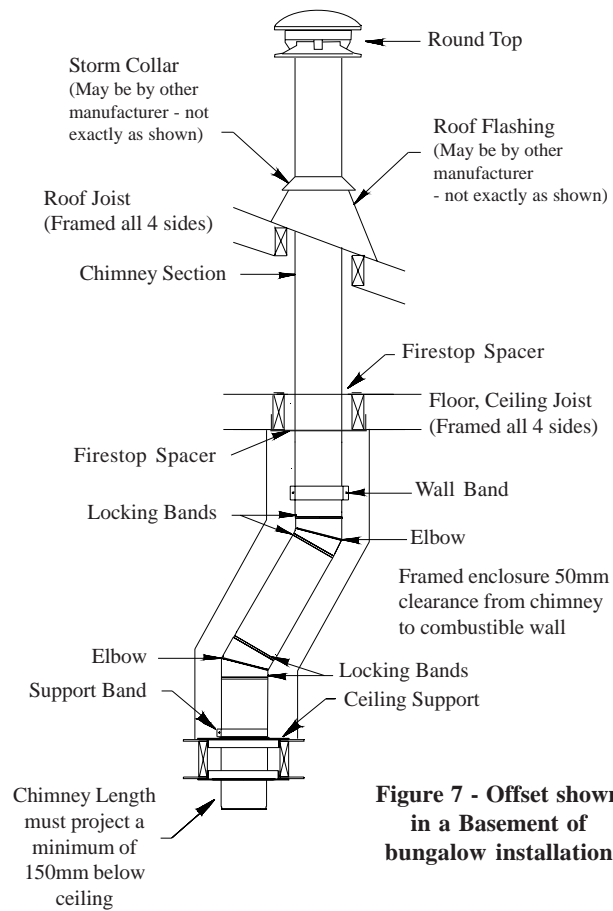

Figure 7 - Offset shown in a Basement of bungalow installation
5. 15°, 30° and 45° Insulated Elbows are available for use where it is not possible to construct a vertical chimney. It should be noted that The Building Regulations require that no part of a chimney used with a solid fuel, wood or oil burning appliance should form an angle of more than 45° from the vertical except where necessary to connect the chimney to the appliance. If an offset is installed in the system, a Wall Band must be installed as shown in Figure 7.